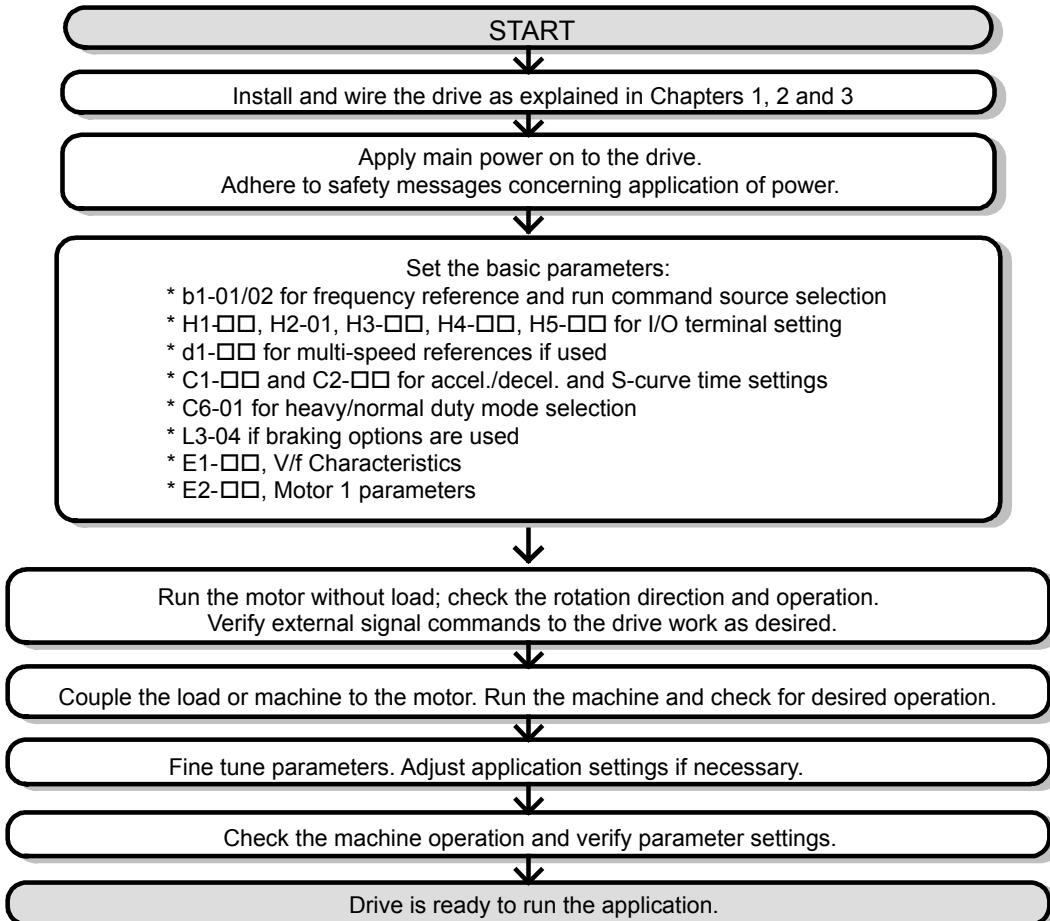

Figure 4.6 Basic Start-Up
**Figure 4.6** describes basic start-up sequence for the drive and motor system. This sequence varies slightly depending on application. Use drive default parameter settings in simple applications that do not require high precision.